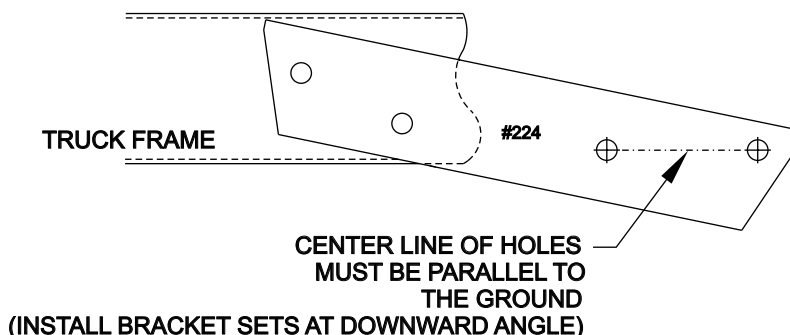

FIGURE 1
- STEP 1:** Using 1/2 inch hardware, loosely install mounting brackets on the outside of truck frame rails with the offset inboard. (See Figure 1 and 2). DO NOT TIGHTEN mounting hardware.